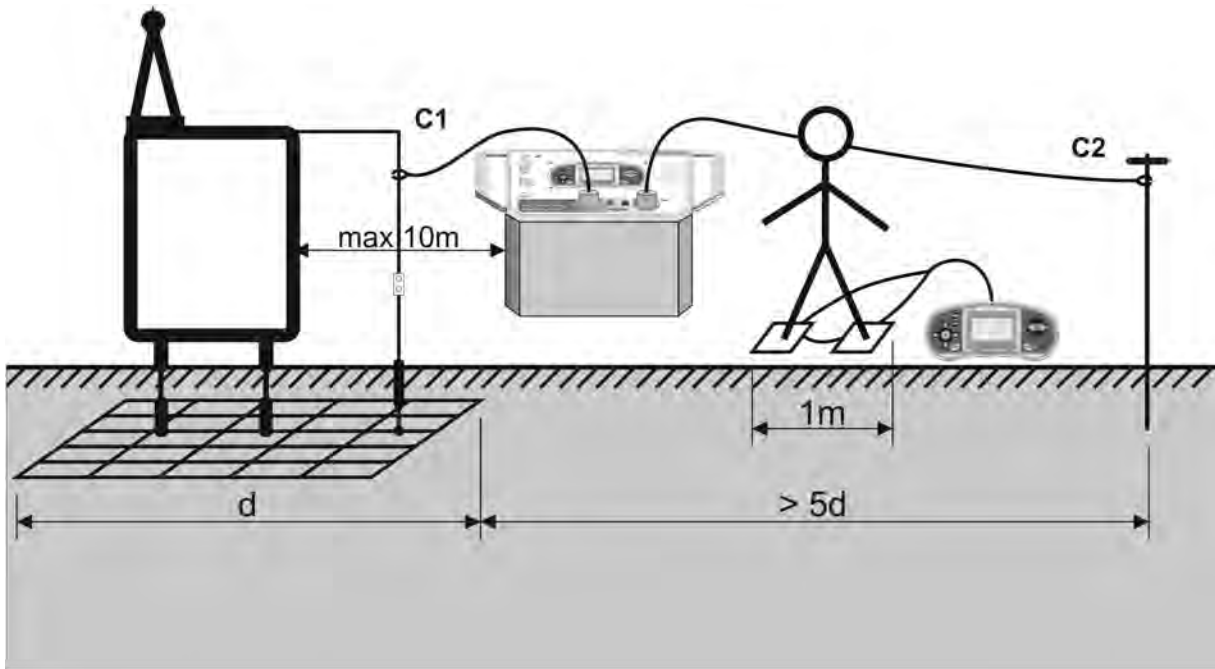
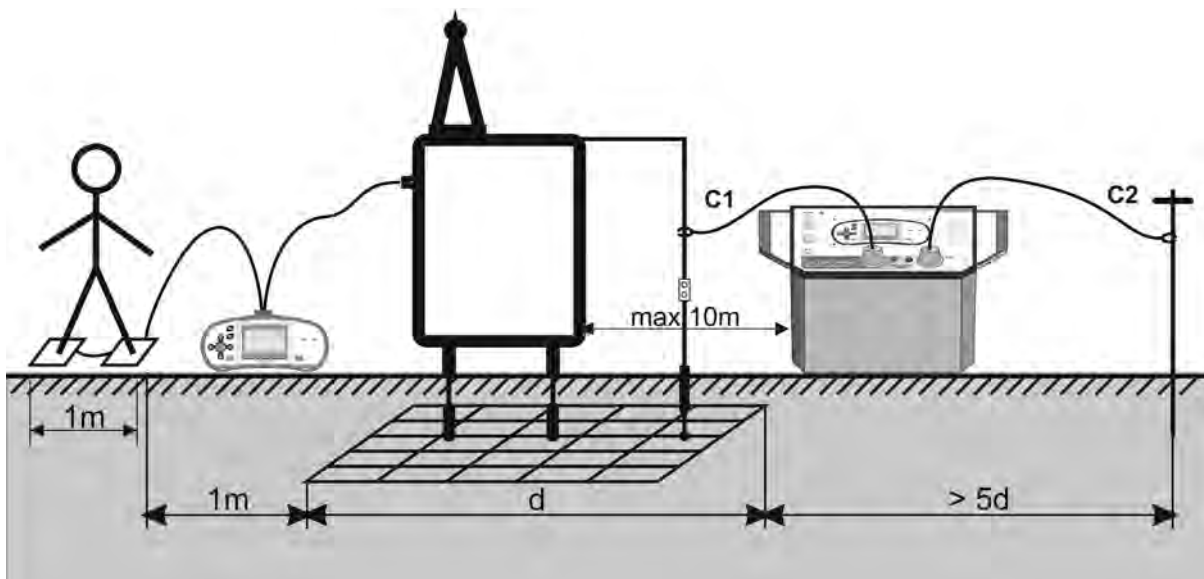

Fig. 17: Circuit scheme for step voltage measurement
Fig. 18: Circuit scheme for contact voltage measurement
- 2 Fit the auxiliary metal probe (1m length) on the ground at a distance of at least 5 times the maximum diagonal of the earth system under test (see Fig. 17). Connect the input terminal C2/E to the probe by using the 50m long cable (if enough) or use another customized cable for longer distances. The nature of the measurement method permits the use of different cables without any resistance compensation. Use also several probes connected in parallel among them if it is necessary to reduce the contact resistance on that point.
- 10 Place and connect the test metal plates to each other where the operator stands, close to the points where step voltage measurement (see Fig. 17) or contact voltage (see Fig. 18) is required respecting the necessary distances